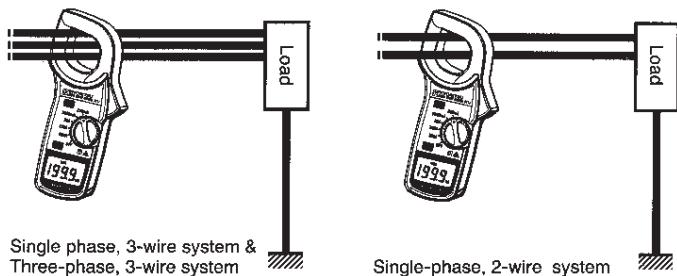

Fig.4
(4) When measuring out of balance leakage current, clamp onto all conductors except a grounded wire as shown in Fig. 4.